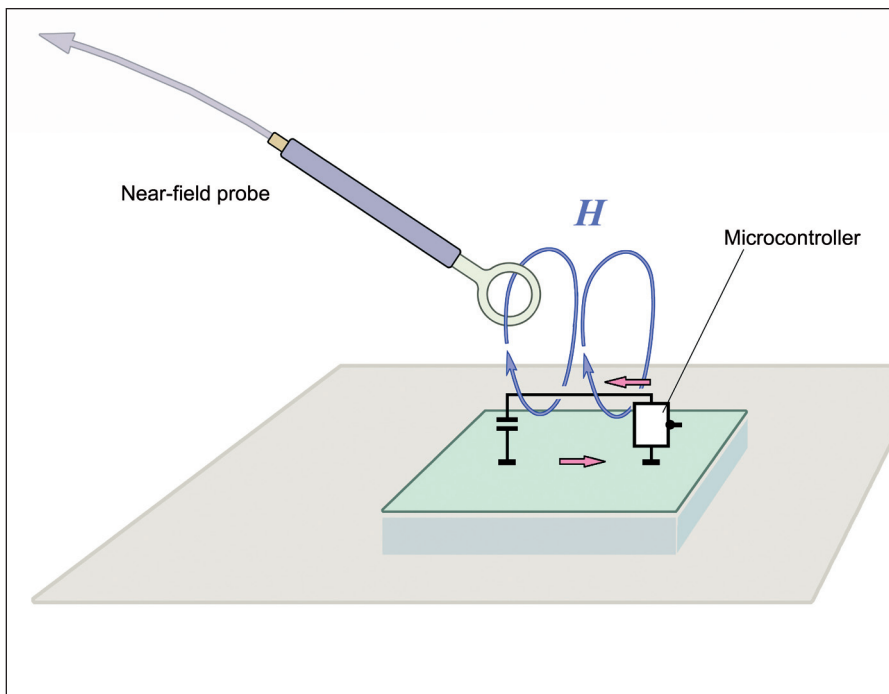

Figure 4: Functional principle of near-field measurements with near-field probes in emission measurements during development
2. The developer can detect the cause of the interference on the module with a near-field probe. The near-field probe measurement (Figure 4) must be able to be traced directly with a spectrum analyzer.